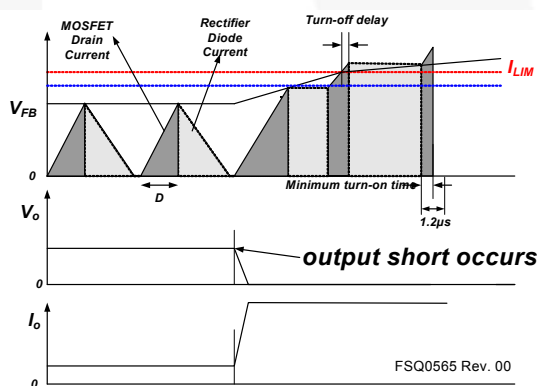

Figure 32. Output Short Waveforms
**4.3 Output-Short Protection (OSP):** If the output is shorted, steep current with extremely high di/dt can flow through the SenseFET during the LEB time. Such a steep current brings high voltage stress on the drain of SenseFET when turned off. To protect the device from such an abnormal condition, OSP is included in the FSQ-series. It is comprised of detecting  $V_{FB}$  and SenseFET turn-on time. When the  $V_{FB}$  is higher than 2V and the SenseFET turn-on time is lower than 1.2 $\mu$ s, the FPS recognizes this condition as an abnormal error and shuts down PWM switching until  $V_{CC}$  reaches  $V_{start}$  again. An abnormal condition output short is shown in Figure 32.